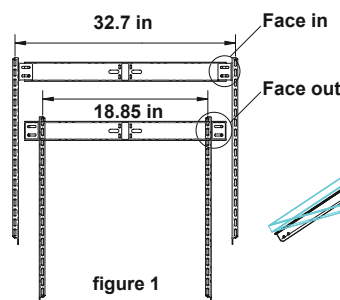

figure 1
**Please note:** Tilt arm (D-104L/R) with arc holes can be adjusted according to the mounting holes on the fixed bracket. The tilt arm can be placed face in or out to maximize the distance for the PV Module as desired. See figure 1 for illustration.